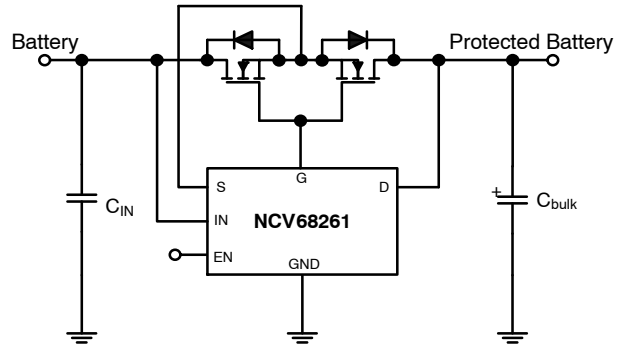

Figure 23. Ideal Diode + High Side Switch
The **Ideal Diode + High Side Switch (HSS)** application in Figure 23 combines the features of the Ideal Diode and an Ideal Switch depending on the Enable (EN) state. If the EN is high the application is in Ideal Diode mode. If the EN is